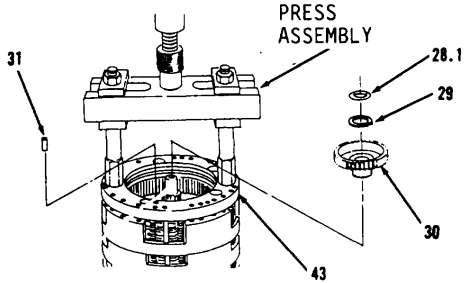

Figure 14-47.
- 15. Install press assembly onto housing (43) and compress to remove seal ring (28.1), snap ring (29), gear (30) and two alining dowels (31, Figure 14-47).